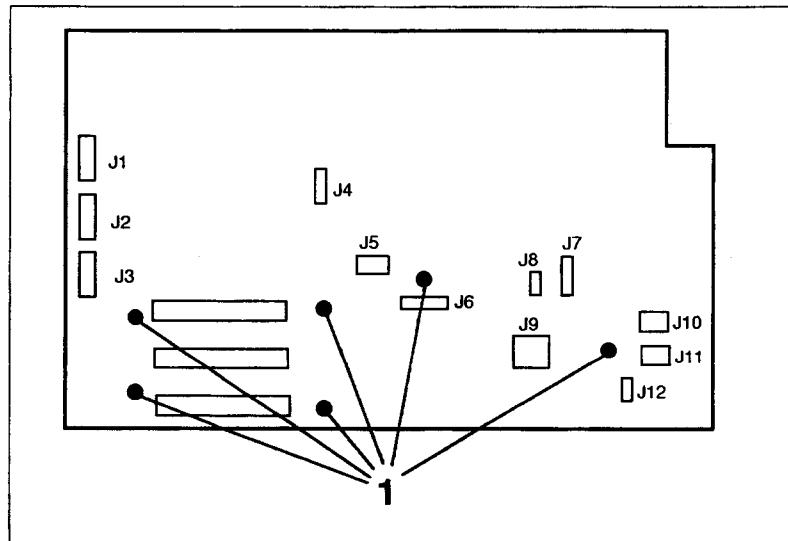

Figure 6-3. Analog/Backplane PCA
b. Unplug the following connectors from the Analog/Backplane PCA (see Figure 6-3):
d. Using needle-nose pliers, pull-up to release the six (6) plastic fasteners on the Backplane PCA (see Figure 6-3, item 1).
- e. Disconnect connectors J8 (Ribbon Motor) and J9 (Stepper Motor) from the Analog/Backplane PCA (refer to Figure 6-3).